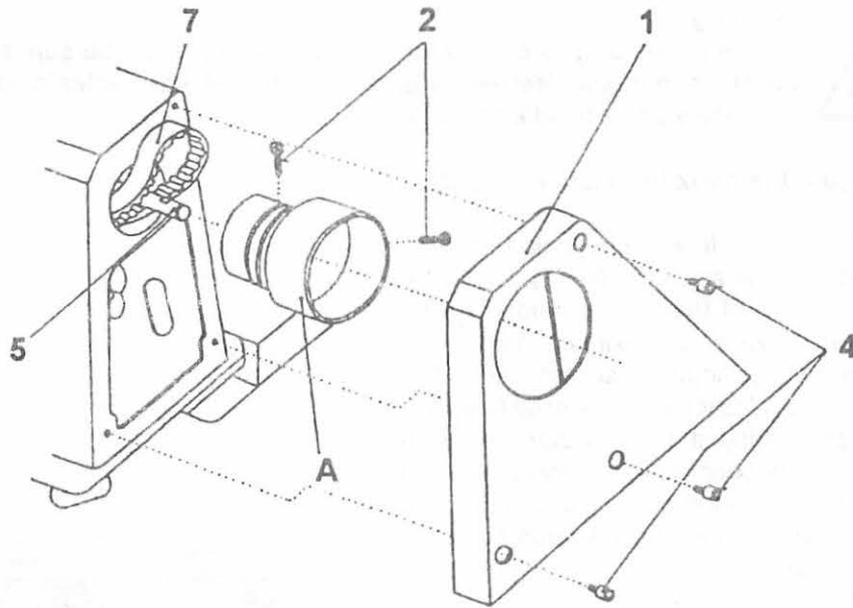

Fig. 3
**4. V-belt and its tension (Fig. 3)**